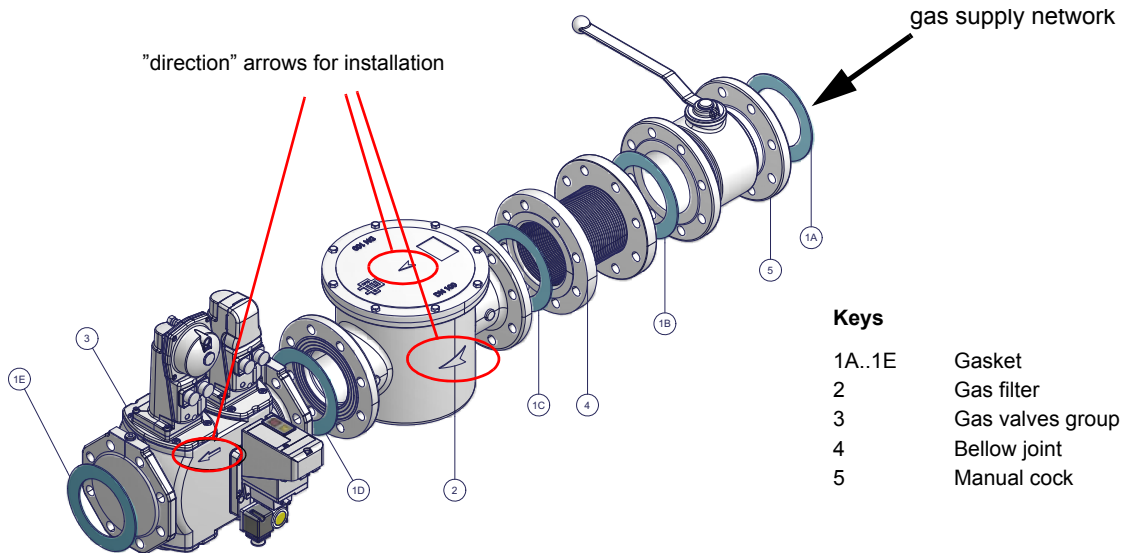

Fig. 5 - Example of gas train
1-b) in case of flanged joints: place a gasket (no. 1A..1E - Fig. 5) between the elements
**ATTENTION:** once the gas train is mounted according to the diagram on Fig. 5, the gas proving test must be performed, according to the procedure set by the laws in force.